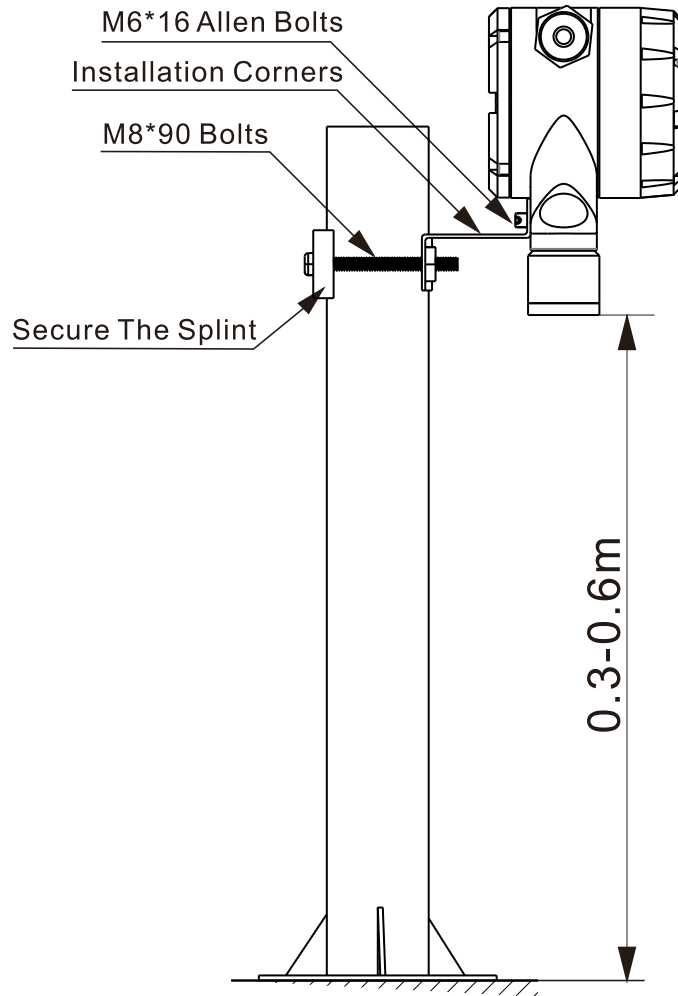

FIG4.1
2. Use the matching fixed splint and installation angle to fix the instrument on the bracket, and the air intake of the instrument is 0.3-0.6 meters from the ground, as shown in Figure 4.1 .